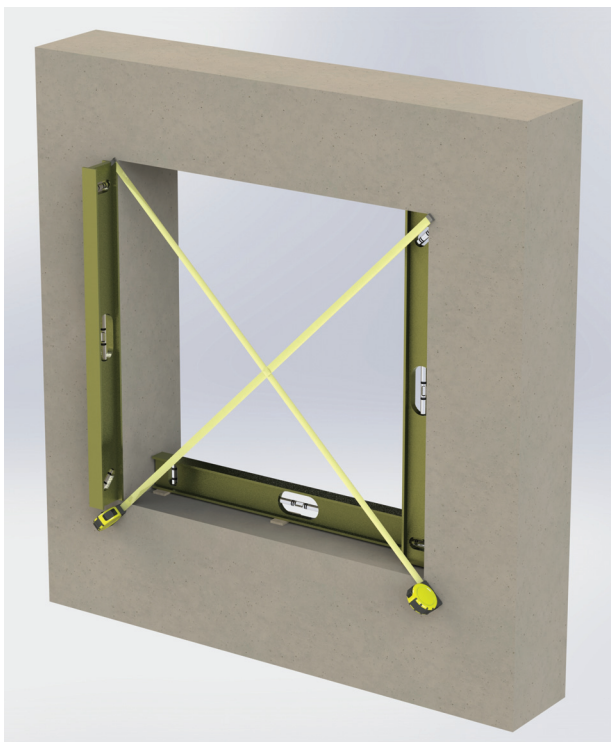

Fig. 1
- C. Verify the rough opening is flat, plumb, level, and square. (Fig. 1)